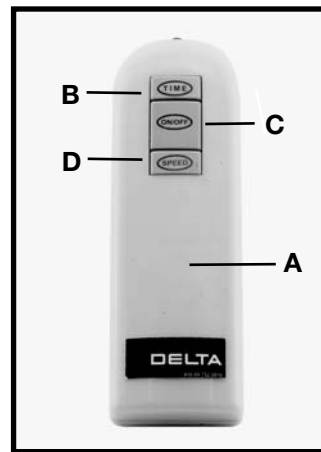
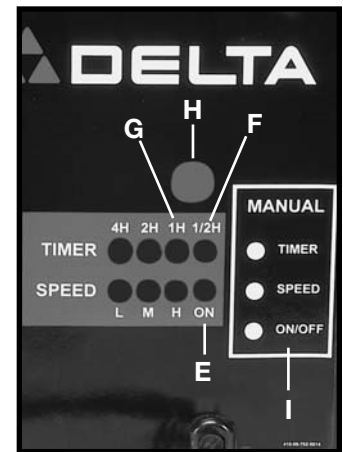

Fig. 7A
Fig. 7B
The Air Cleaner is equipped with a REMOTE CONTROL (A) Fig.7A. **NOTE:** The remote requires two (2) AAA batteries (not supplied). Battery housing is located inside the back cover.
Notice that the remote control has three control buttons (Fig. 7A): TIME (B), ON/OFF (C), and SPEED (D). These buttons correspond to the LED sensor panel on the rear of the machine (I) Fig. 7B. **NOTE: When the machine is connected to the power source, a green light (E) will be activated on the panel.**
To activate the blower unit, press the “ON/OFF” button (C) Fig. 7A. The machine will begin in the default speed of Low or “L” on the sensor panel. Press the SPEED button once, and the machine will run at the high (or “H” level). Press the SPEED button again, and the machine will run at the medium speed (or “M”). Press the SPEED button a third time, and the machine will return to the Low Speed mode.
To turn the machine off, press the “ON/OFF” button (C) Fig. 7A.
The 50-868 Dust Collector provides a timer that can be set by remote control. (B) Fig. 7A.
When the TIME button (B) Fig. 7A is pressed on the remote control, the machine will run for 1/2 hour. (An LED light will show up on the sensor panel (F) Fig. 7B). Pressing the TIME button again will set the machine to run for one hour. Notice that the light on the sensor panel has now moved to the 1H location (G) Fig. 7B. When the TIME button is pressed a third time, the machine will run for 90 minutes. At this point, two lights will appear - one under the 1H location (G) and one under the 1/2H location (F) indicating an hour and a half. Continue this process for up to 7 1/2 hours of run time.
All of these actions can be manually controlled by using the buttons on the sensor panel (I) Fig. 7B.